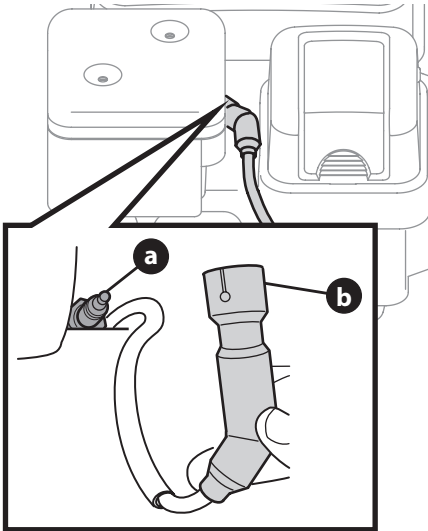

Figure 11
1. Carefully disconnect the spark plug wire (a) and keep it away from the spark plug (b). Refer to Figure 11 for spark plug location.
1. Remove the spark plug boot (Figure 11).